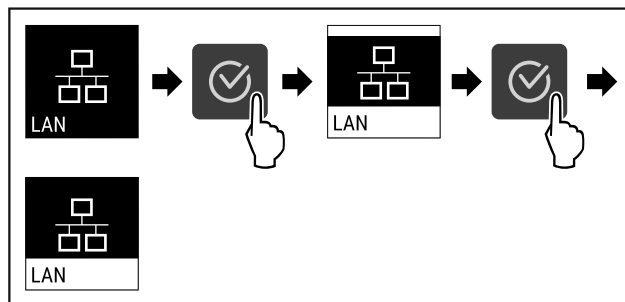

Fig. 82
- Complete the steps (see Fig. 82).